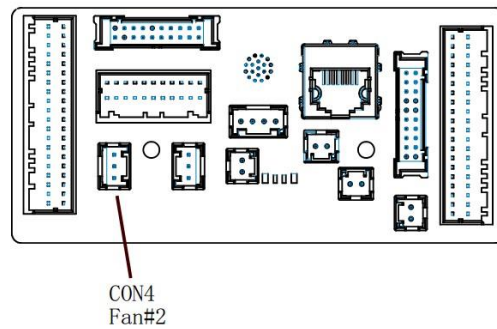

Figure 5-9 Position of the power fan connector
Step 4 Find the "Fan#2" connector on the interface panel, as shown in Figure 5-9, and pull out the connector.